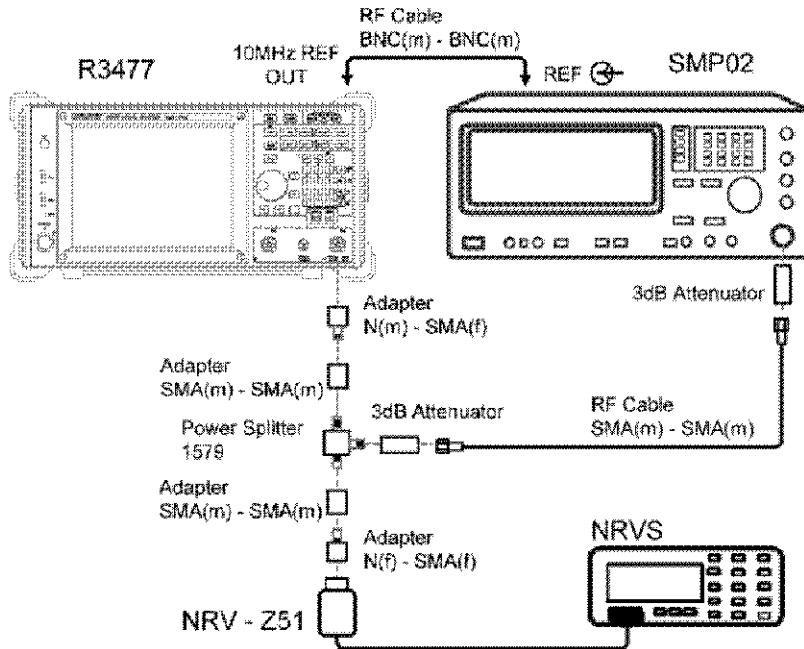

Figure 2-10 Frequency Response Test
1. Connect the instruments as shown in Figure 2-10.